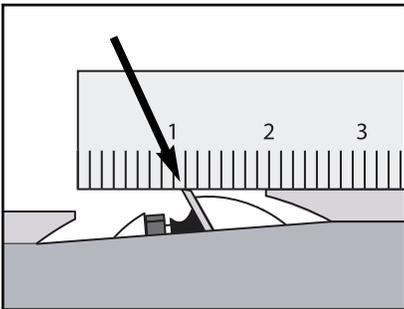

**Figure 9.** Top dead center position.
11. Rotate the cutterhead so the blade edge is at the top-dead-center of its rotation shown in **Figure 9**.